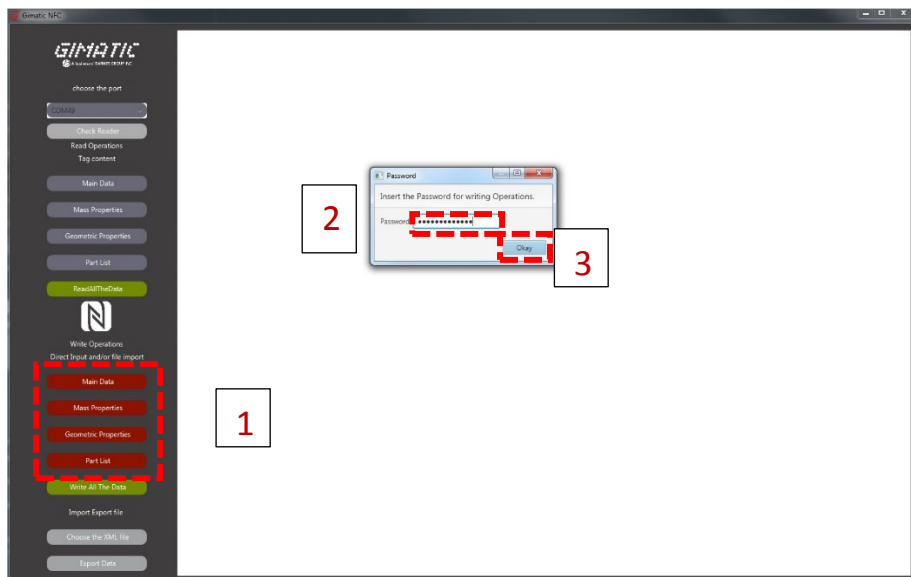
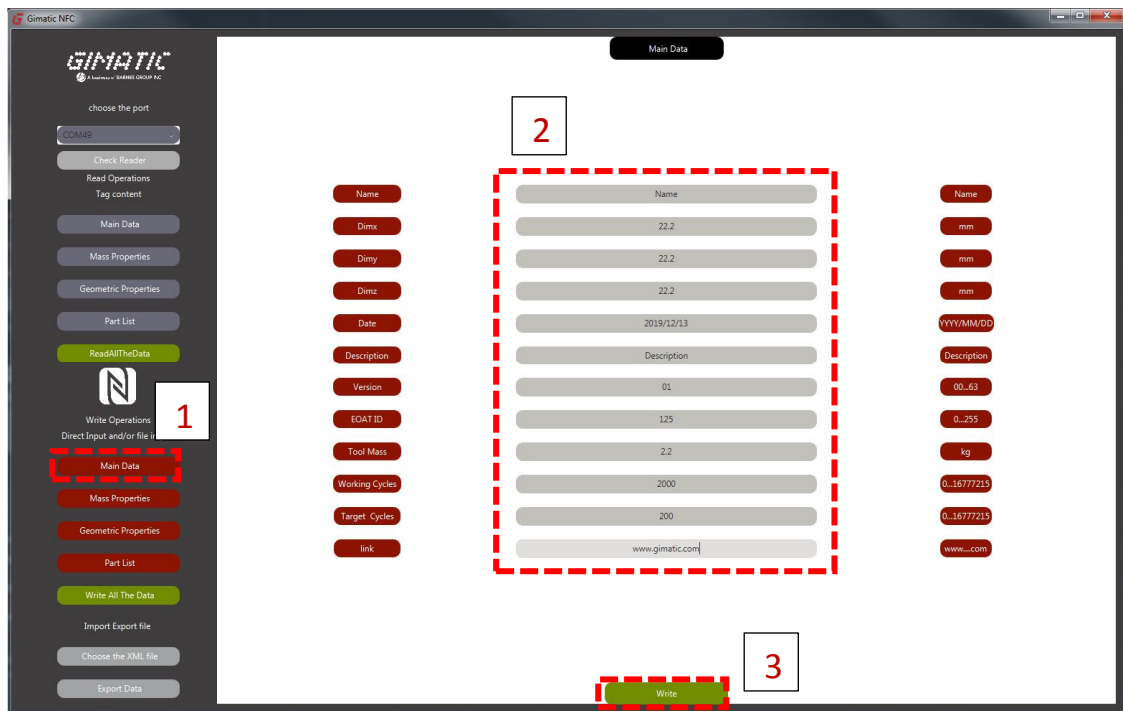

Figure 27
Figure 28
To access the writing operations a password is required: please send a request to: info@gimatic.com. The password is requested on the first writing session of each working session. In the following images the authentication session (Figure 27) and the writing example (Figure 28) are described.
Select one of the writing categories (1), insert the password (2), click on the apposite button (3) (Figure 27).
Select the desired writing layout, for example "Main Data" (1), insert the desired data to write (2), click on the write button (3) (Figure 28).